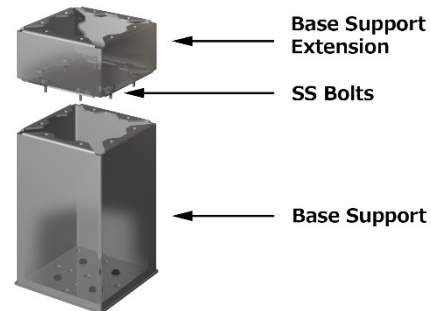

Figure 7
- Taller Base Support: Standard Base Support heights are 8", 10", 12" and 14". These heights will accommodate most conditions; however, we also offer custom-built heights if necessary. In the event that the Base Supports must be raised after they are installed, we offer 8" extensions that can be added in the field as illustrated in Figure 7.